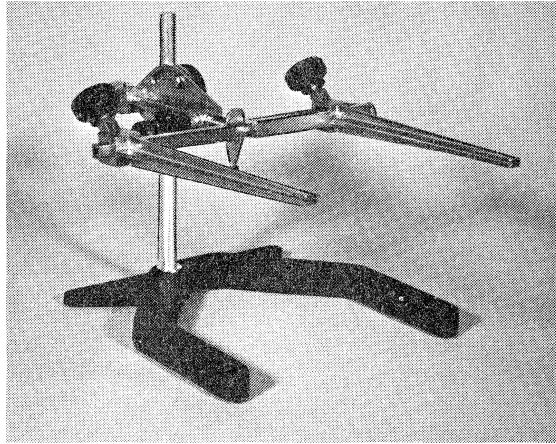

Figure 2-7.—Card holder and magnifier.
The circuit card holder is an adjustable, rotatable holder for virtually any size circuit card. Figure 2-7 shows the circuit card holder [view (A)] and the magnifier unit [view (B)]. The magnifier unit provides magnification when detail provided by a microscope is not required. The special lens allows the technician to view a rectangular area of over 14 square inches with low distortion, fine resolution, and excellent depth of field. The magnifier unit, which includes high intensity lamps, adapts to the vertical shaft of the circuit card holder.